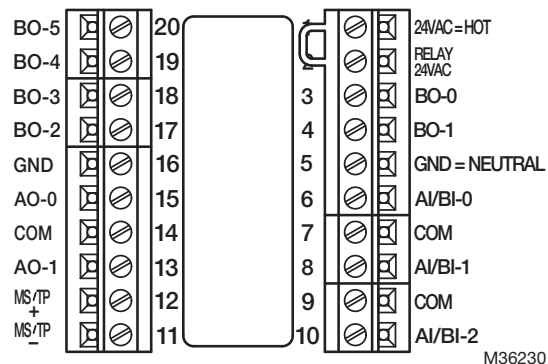

Fig. 4. Fixed Function Thermostat terminal assignments.
1. Connect wires to the terminal blocks. See Fig. 4 for terminal assignments and Table 1 for terminal descriptions.